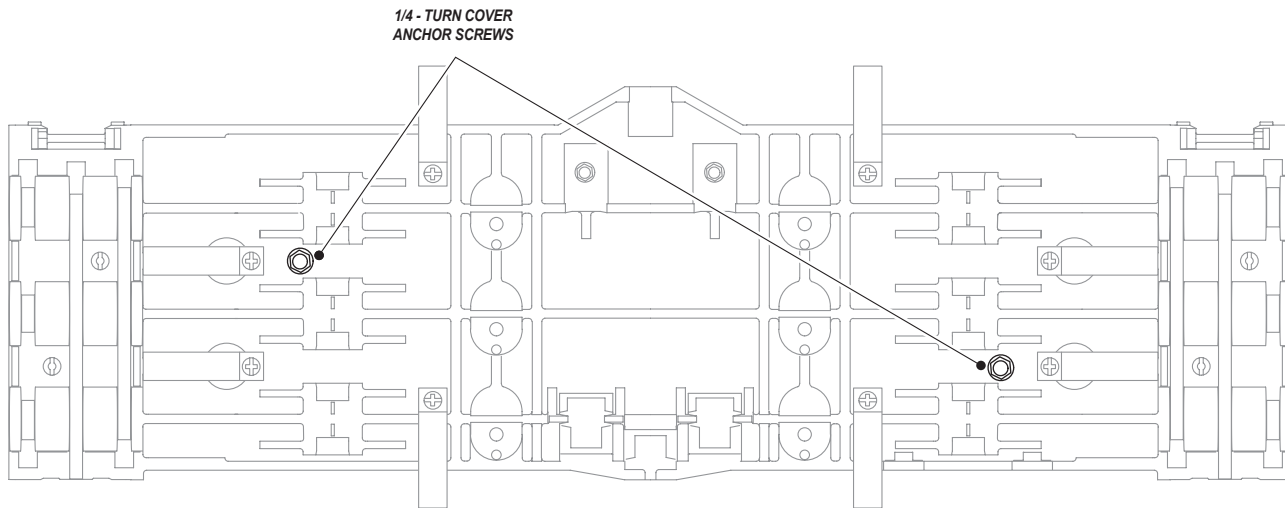

FIGURE 19—Locating Quarter-Turn Cover Anchor Screws.
- 10.03** After assembly of cover to frame, lock down and secure cover to frame by using the two (2) hex-head screws located at each end of the frame. Refer to Figure 19 on page 8.